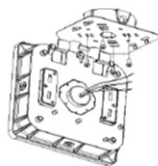

Fig. 3
- 1) Fix the mounting plate onto the junction box (Fig. 3)
- 2) Hang the light body onto the mounting plate and wiring (Fig. 3)